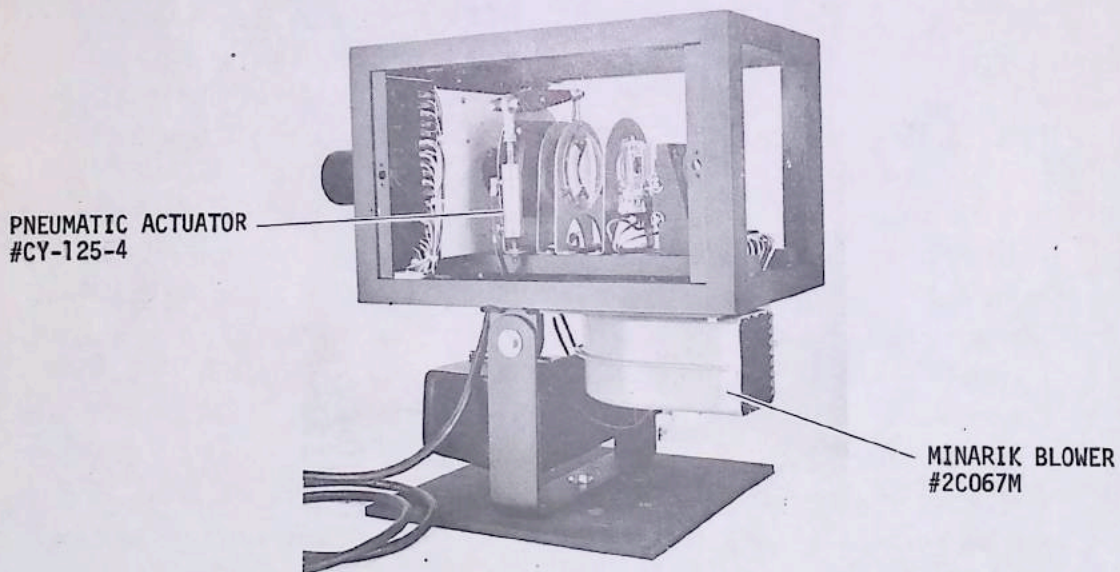

FIG 2
Loose Servo Mirror Assembly (Act IV)	Spin squirrel cage blower by hand to check oilite bearing (2). Cage should spin freely with no vibration or binding. Fig. 2.  Check for loose assembly retaining screws (3).
Check for inoperative blower. (This causes an increase in temperature from the lamp activating a thermostatic switch shutting off the electrical power supply.) Fig. 2 & 3.